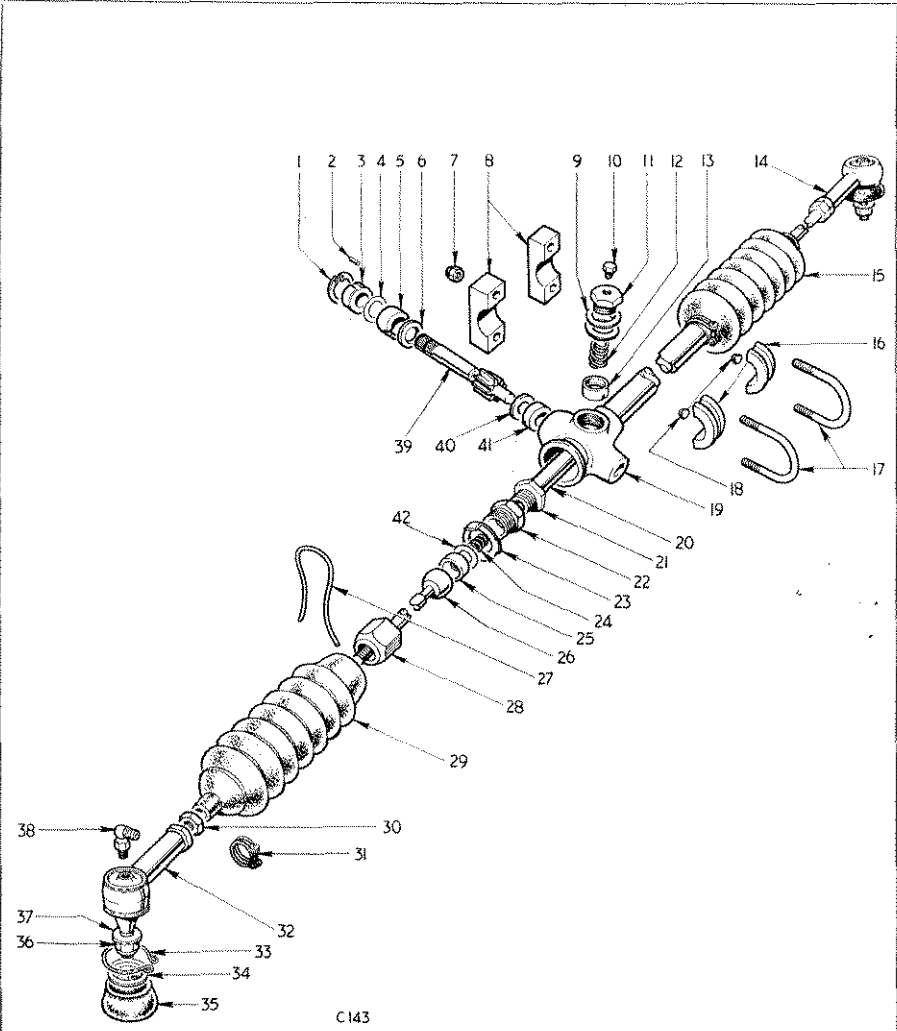
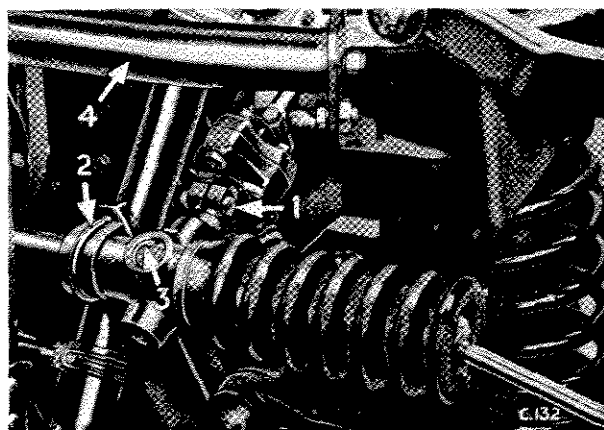

Fig. 3. Steering unit details
Fig. 6. Steering unit attachment
Removal (Fig. 3)
Remove the bolt (1) from the steering coupling Fig. 6. Remove the nyloc attachment nuts (36) and separate the outer tie rod ball joints from the tie rod levers, as shown on Fig. 3.
Steering Unit (Fig. 3)
Enter the taper pins of the outer tie rod ball joints (32) into the steering levers and fit washers (37) and nyloc nuts (36). Refit the bolt (1) Fig. 6, and nyloc nut to the steering coupling.